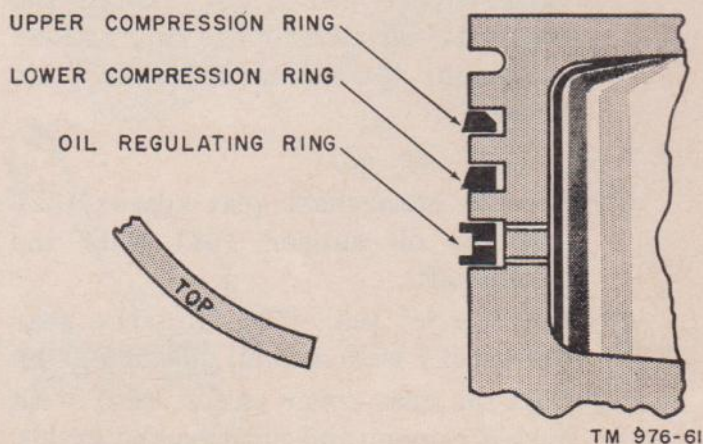

Figure 61. Piston ring installation.
- (5) Use a conventional ring tool and install the rings on the pistons as follows: Position the upper compression ring with the inside beveled edge toward the top (fig. 61). The face of the lower compression ring is tapered .001 inch and the letters T or T-O-P on the upper edge (fig. 61) indicate how the ring should be installed. Install the rings with the ring gaps staggered around the piston.